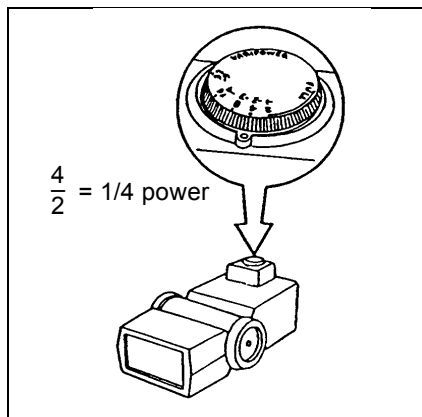

Figure 2-25. Strobe Power Dial
5. Attach the strobe to the strobe bracket and latch with the strobe lock. Be sure the strobe is set to one quarter power (Figure 2-25).